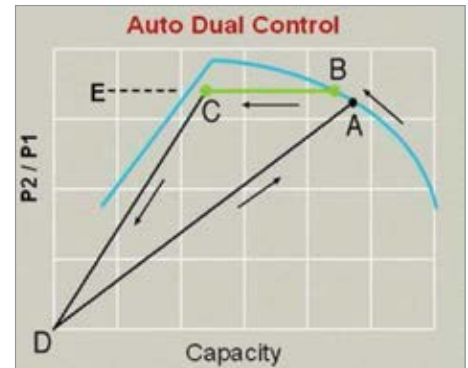

Figure 2
#### 2. Constant Pressure Control with Modulating Unloading Regulation (UV) (See Figure 2)